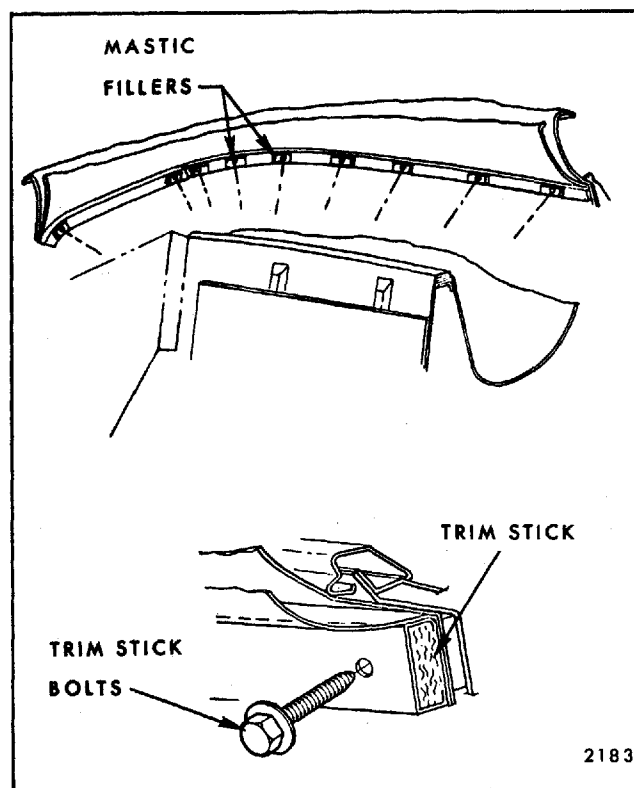

Fig. 6-19—Checking Trim Stick Fillers
12. Inspect mastic type trim stick fillers to body below pinchweld for sufficient seal at bolt holes (Fig. 6-19).